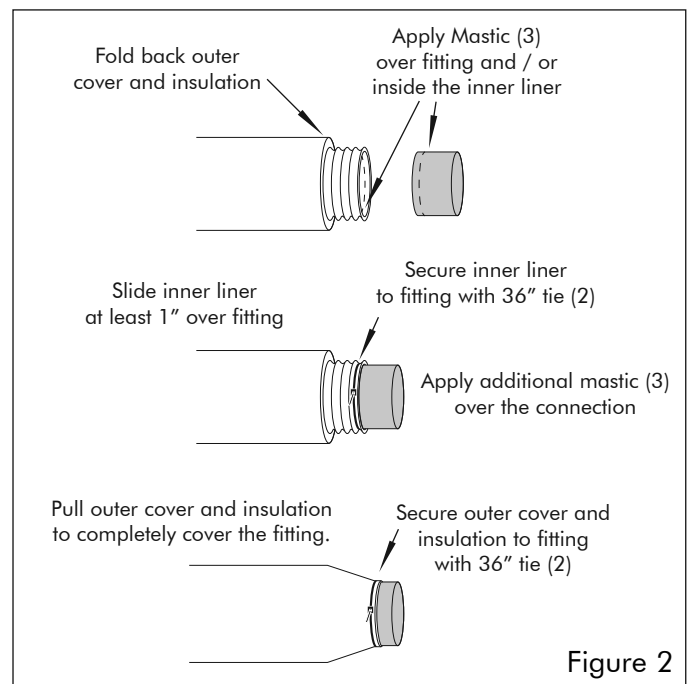

Figure 2
1. After desired length is determined, cut completely around the through duct with multipurpose tool. Fold back outer cover and insulation. Apply mastic over fitting and / or inside the inner liner (see figure 2 and 3 on page 16).